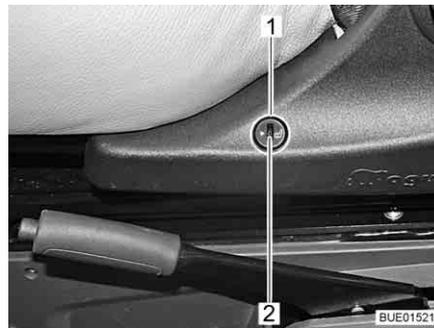

Fig. 28 Seat heater switch
- Press the lower half of the switch (Fig. 28,1) on the left side of the seat console.
- To lower the heat output, turn the adjustment wheel (Fig. 28,2) towards "0".
- To increase the heat output, turn the adjustment wheel (Fig. 28,2) towards "5".
- Press the upper half of the switch (Fig. 28,1) on the left side of the seat console.